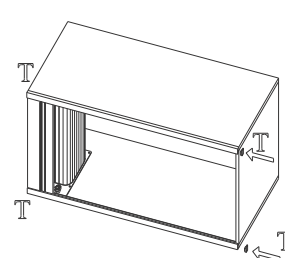

Fig. 9
6. Attach the end cap at the bottom of the left and right track as shown in Fig. 9.